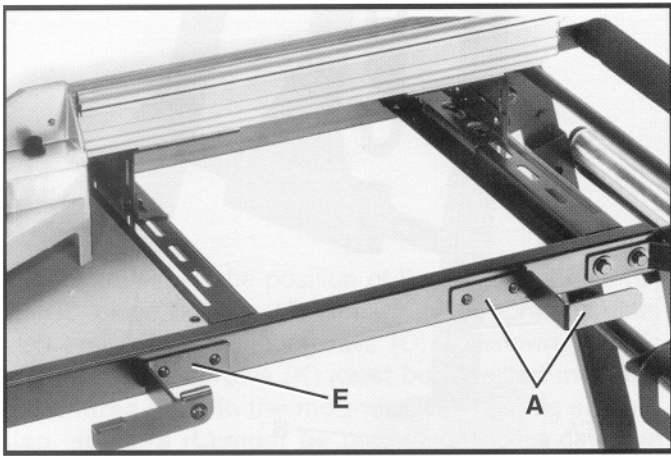

Fig. 41
4. Fig. 41, illustrates cord wrap brackets properly assembled to the saw stand.